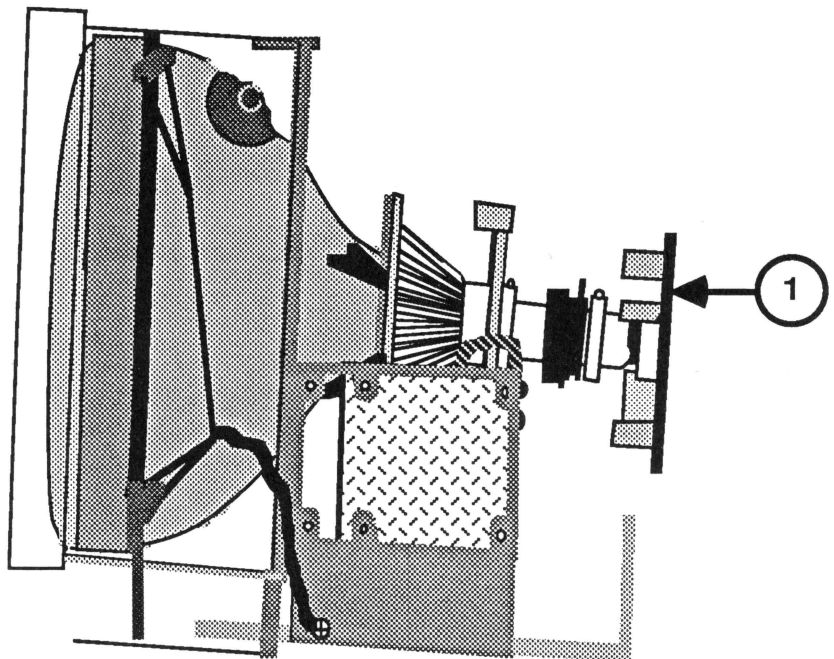

FIGURE 14
5. Replace the CRT socket board (Figure 14, #1). It fits only one way.